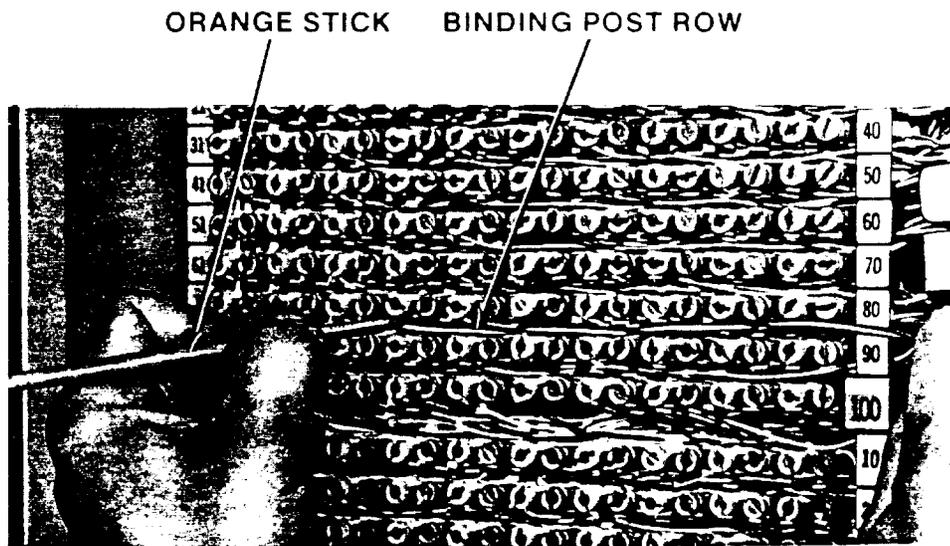

Figure 14. Routing Cross-Connecting Wire
4.03 Route the cross-connecting wire as follows (Figure 14):